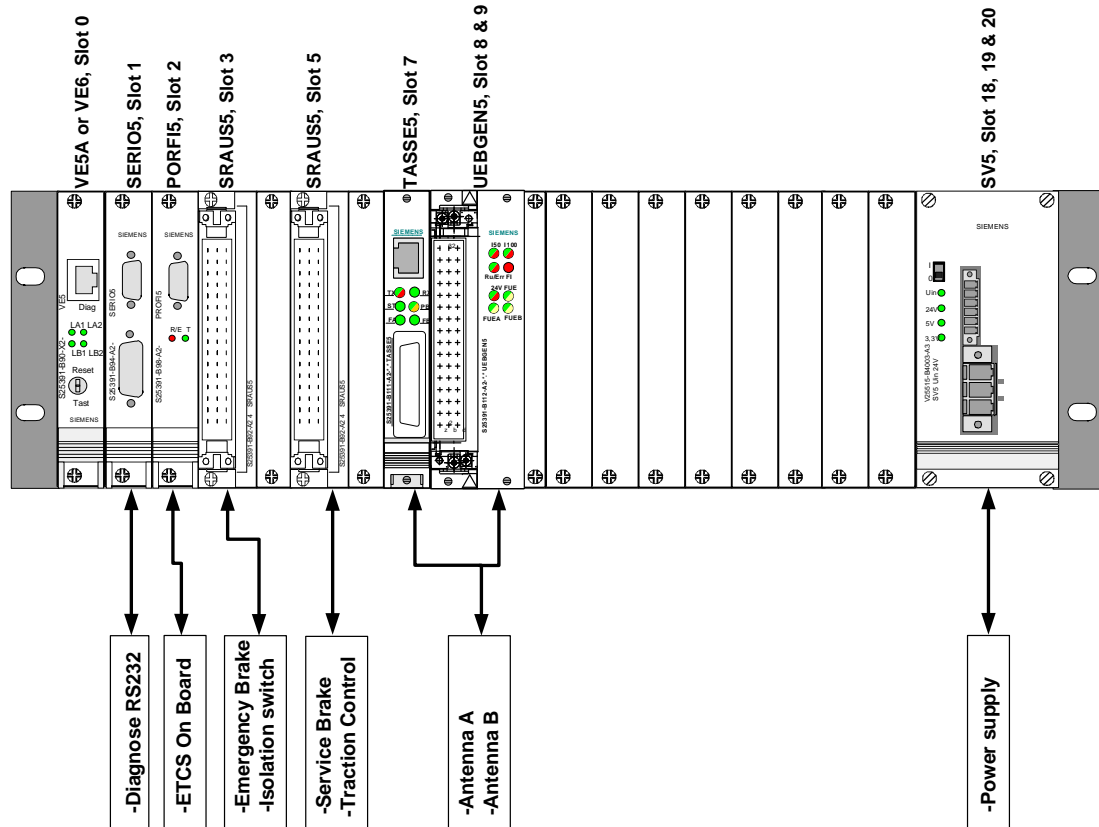

Figure 2 STM-DK Sub rack
- STM-DK Sub rack, -A1, see Figure 2